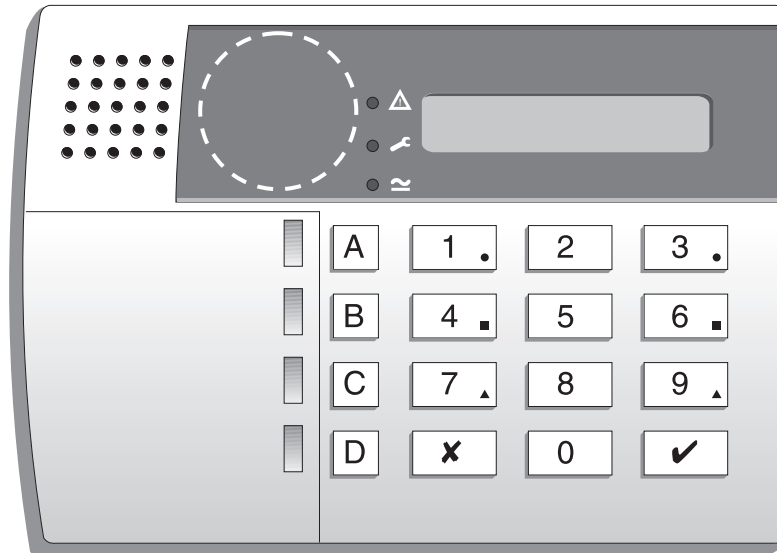

Figure 1. Sensitive Area on 9930 Keypad for Tag
A tag acts as an alternative to a user access code. You can assign a user a tag, an access code, or both. You cannot assign a tag to the Master User (User 01), the Installer (User 00) or, if the Guard Code facility has been enabled using Command 181, the Guard (User 50). This means you can assign up to 48 (or 49) tags on a system, one each for Users 2 to 49 (or 50). When presenting a proximity tag to a 9930 keypad, whether for programming or for normal use, make sure that the tag is touching the front of the keypad to the left of the display as shown in Figure 1. The 9940 keypad has a proximity coil that makes the whole case sensitive to tags.
5. Present the proximity tag to the front of the keypad (see Figure 1).